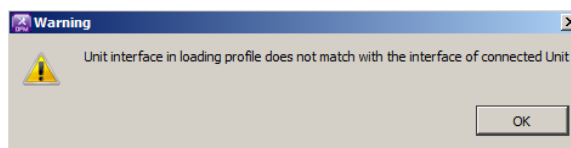

Figure 33 – Warning on interfaces incompatibility of profiles of loaded and connected Unit
**ATTENTION:** When there is an active connection between DFM Marine and PC it is possible to load profile from file of only the same interface as connected Unit. Otherwise the warning message will appear (see figure 33).